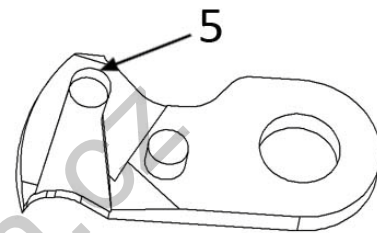

Fig. 36
- B. Set the position of fixed knife (1) so that the sharp is in distance of 1,5-2mm from the edge of the insert of needle plate (2).
- C. Loosen the screw (4) and set the position of moving knife (3) so that the distance of knife blade (5) is 1-2mm from the blade of fixed knife, Fig. 36.